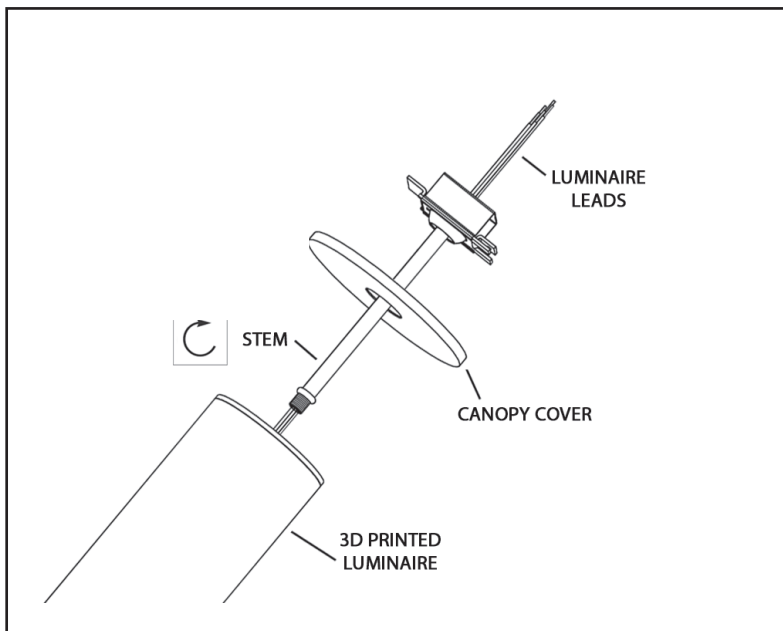

Figure 8
- Attach **Stem** assembly to **3D Printed Luminaire** by threading it in clockwise. (Figure 8)